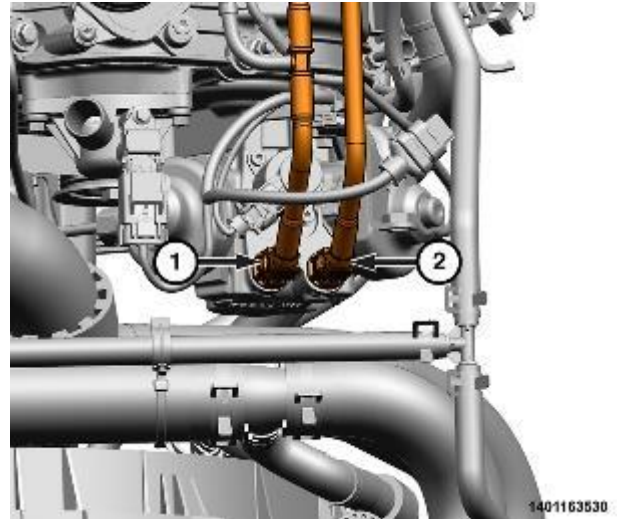

Figure 185 – Low Pressure Lines
21. Disconnect the low-pressure supply (2) and low pressure return lines (1) from the fuel injection pump (Figure 185).